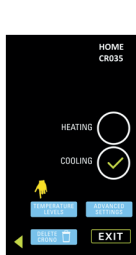

Fig.47
9.5.2 Press ; Fig.47
9.5.4 Confirm by pressing  otherwise press  to go back to Fig.47